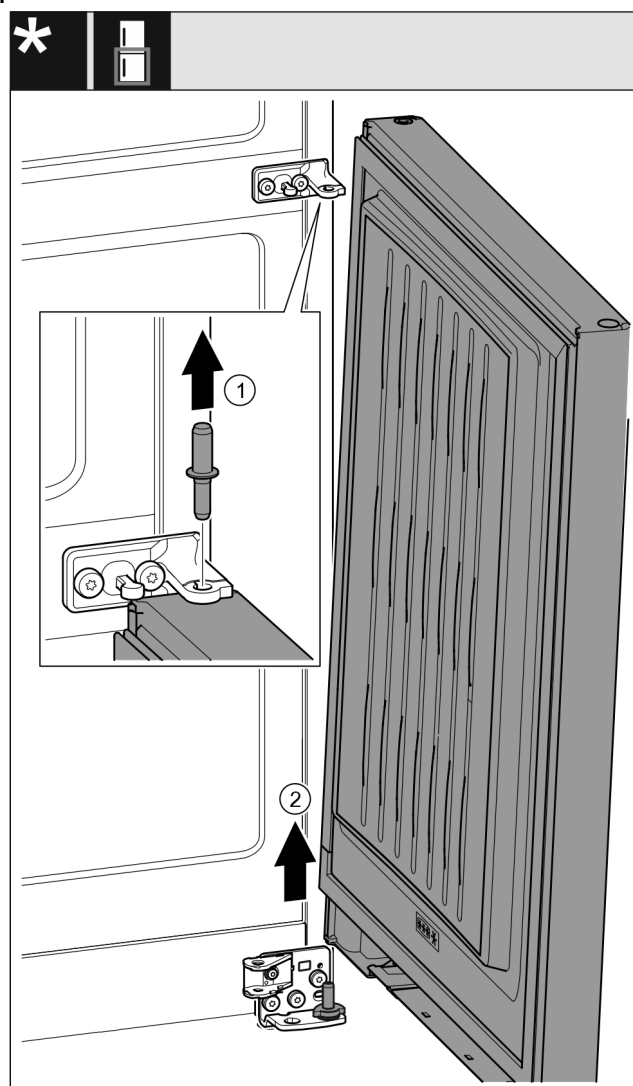

Fig. 20 With closing damper*
- Pull out the bolt Fig. 20 (1) upwards.*
- Swing out the door Fig. 20 (2), pull it upwards and set it aside.*